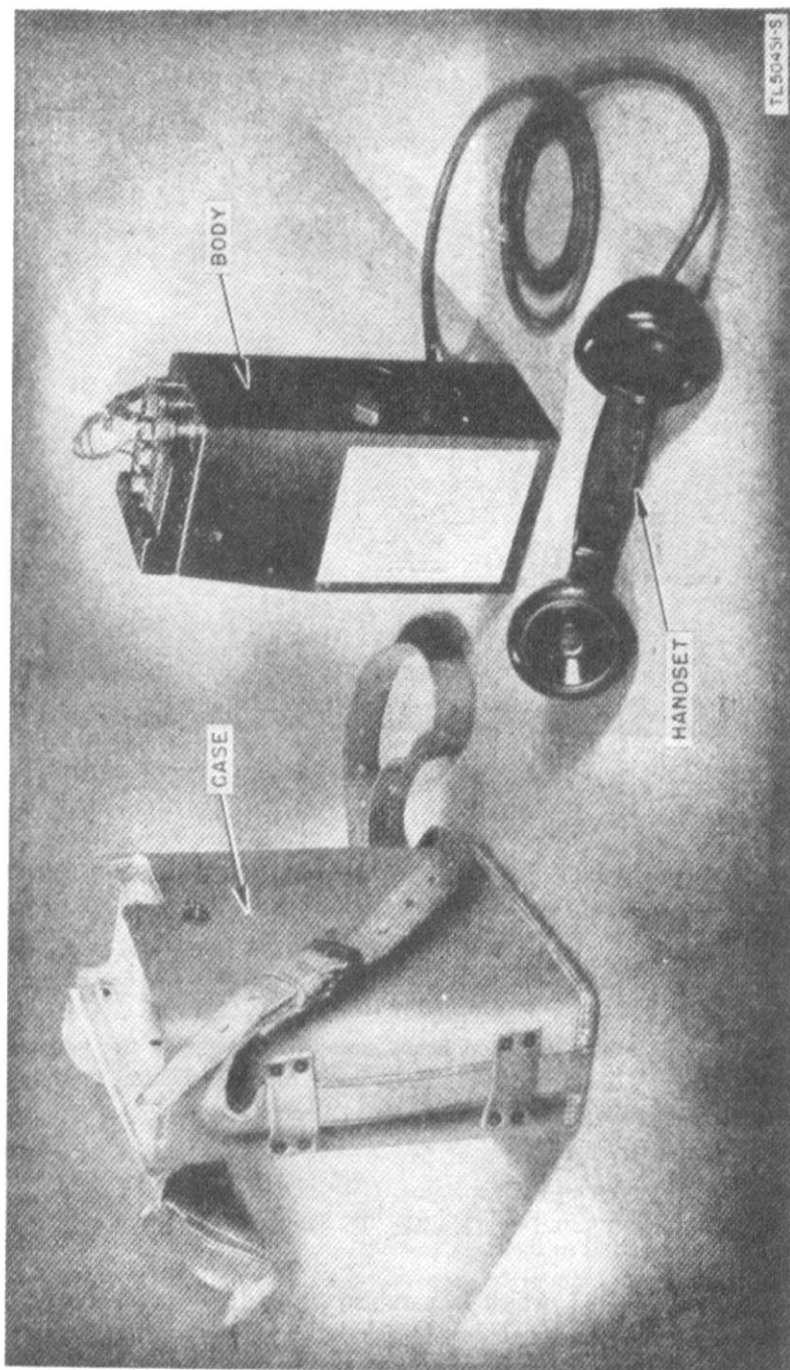

Figure 4. Telephone EE-8-A, body removed from case.
*c. BODY.* All elements of Telephones EE-8 and EE-8-A are mounted on an aluminum alloy chassis. The elements of Telephone EE-8-B are mounted on a sheet steel chassis. This assembly of the chassis and the elements mounted on it is called the body. (See fig. 4.) The battery compartment is on the upper left side of the body. The chassis is fastened to the case by seven machine screws.
d. *HANDSET TS-9-(\*).* Handset TS-9-(\*) includes the following (figs. 4 and 9):
(1) Cord CC-333, which is a rubber-covered cord containing three rubber-covered conductors colored black, red, and white. These conductors at one end of the cord are connected to the terminals on the jack marked T & BAT +, C, and REC, respectively. The conductors at the other end of the cord are connected to terminals marked BK (or B), R, and W of the handset respectively. Stay cords are fastened at both ends.
(2) The handle, which contains suitable terminals, connections between the parts of the handset, and the handset switch in the transmitter circuit.
(3) A receiver element or unit in one end of the handle and a transmitter element or unit in the other end.